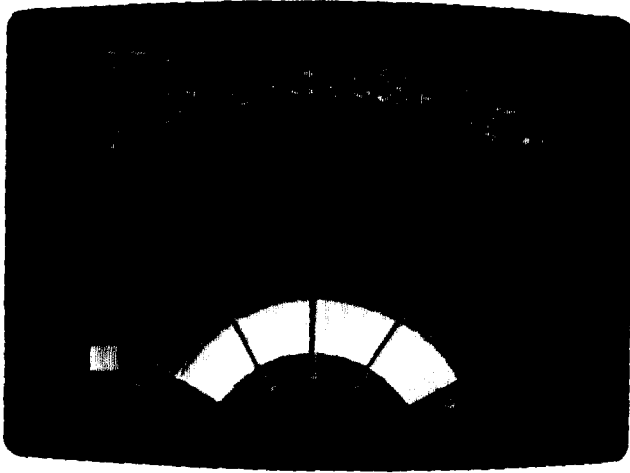

Figure 3-3. Test Pattern
- (d) Observe the display; verify that TEST is displayed in the Mode field and that test pattern exhibits the following characteristics as shown in Figure 3-3:
- (d) Observe 4-color test pattern display shown in Figure 3-3. If the noise band between 85 and 95 nm is broken or missing, it is indicative of problems in the radar system.